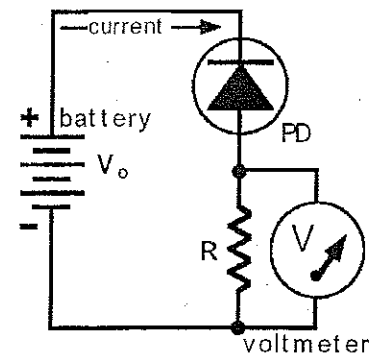

Figure 1
3. A Si p-n photodiode is connected to a measuring circuit shown in Figure 1. The battery voltage is 10V. Resistance  $R = 5 \text{ K}\Omega$ . An incident light at wavelength  $1.55 \mu\text{m}$  provides an input optical power on the photodiode of  $10 \mu\text{W}$ . Under this condition, the voltmeter measures 50 mV.